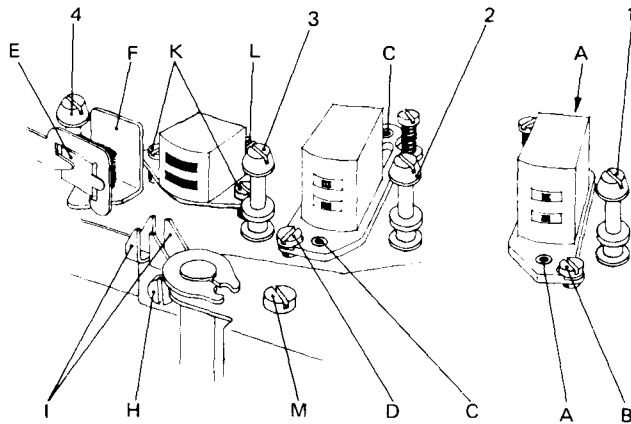
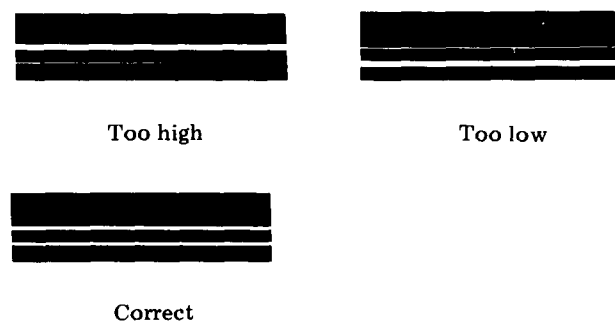

Fig. 3.1 Tape path adjustment screws
Fig. 6.2 Track measurement of erase head
Insert a new tape, and start the recorder in normal forward drive. Check visually that the tape appears to run parallel with the upper track of the record head, with a play of approx. 0,1 mm (4 mils). If necessary, adjust the height with screws (C) fig. 3.1, while endeavouring to maintain the headfront parallel to the tape.
Set the tape recorder in record mode, and unscrew the locking screw (H) fig. 3.1, about 1/2 turn. Connect a VTVM across each one of the record head halves. Move the bias head up or down by means of adjustment screw M for the highest possible reading on the voltmeter. Check that the tape runs freely in the groove in front of the bias head and that there is sufficient clearance between the bias head and the mounting plate for the record head. The height position of the bias head is not critical, and if the clearance between the bias head and the mounting plate for the record head is insufficient, raise the bias head slightly.
Connect a VTVM across each one of the record headhalves, and set the tape recorder for stereo recording. Insert a screwdriver in groove I, ref. fig. 3.1, and pull the bias head to the right.
By visual inspection, check that approx. 0,25 mm (10 mils) of the upper half of the erase head is visible above the tape. Insert Tandberg test tape No. 9 and record a 400 Hz signal at 7 1/2 ips well above normal level on channel R (track 3). Dip the tape in a solution of fine grained iron oxide powder and alcohol (Magna See solution). Check that the recorded track is positioned in centre of the erased track. Make sure that no parts of the adjacent tracks are erased, see fig. 6.2. If necessary, adjust the height of the erase head by means of the screws (K) and (L) ref. fig. 3.1, and repeat the above check.
Check that the head front of the erase head is perpendicular to the mounting plate. If necessary, adjust azimuth position by means of the screws (K) ref. fig. 3.1. This adjustment is not critical.
The height of the playback head is aligned by the height adjustment screws (A), ref. fig. 3.1. The upper edge of the tape shall run flush with the upper part of the head lamination for channel L.
Play back a standard azimuth alignment tape with a VTVM connected to each output. Adjust the position of the playback head by the azimuth adjustment screw (B) ref. fig. 3.1, until maximum reading is obtained on the output meters.
The height of the erase head is aligned by the height adjustment screws (K and L) ref. fig. 3.1. Approx. 0,25 mm (10 mils) of the ferrite core for the upper track of the erase head should be visible above the tape.
Insert a full-track prerecorded tape and record a 1.000 Hz signal from a generator, well above optimum recording level in mono on track 3 (channel R). Cut the tape and dip it into the Magna See solution. Check that the prerecorded track is in the centre of the erased area, ref. fig. 6.2. Adjust the vertical position of the erase head if necessary.
The height of the erase head is aligned by the adjustment screws (K and L) ref. fig. 3.1. Record a 1.000 Hz signal in stereo well above optimum recording level on a full-track prerecorded tape. Dip the tape in the Magna See solution and check that the tracks are distributed symmetrically across the tape. Readjust the erase and the record heads, if necessary.